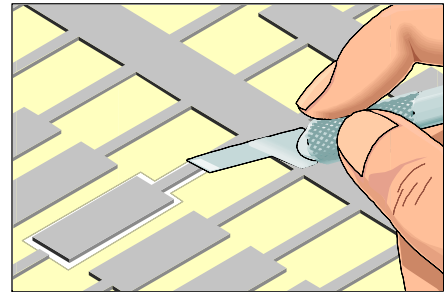

Figure 4: Cut out the new surface mount pad. Cut from the plated side.
10. Cut out and trim the new pad. Cut out from the plated side. Cut the length to provide the maximum allowable circuit overlap for soldering. Minimum 2 times the circuit width. (See Figure 4).